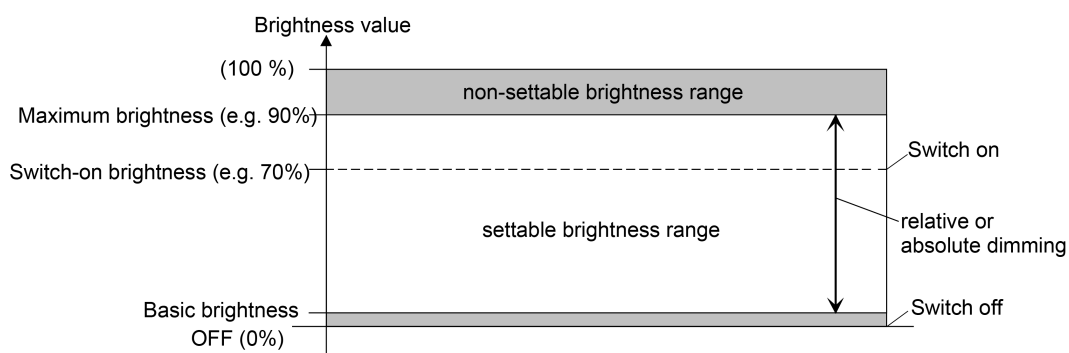

Figure 12: Example of a brightness range with basic brightness
- Definition of the lower brightness limit with basic brightness (figure 12):